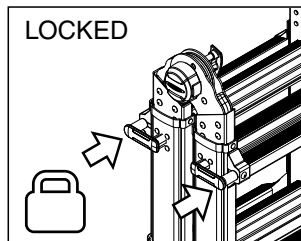

Figure 5
- 4) Ensure all 4 “J” locks are secure in a rung hole before climbing (See Figure 5).